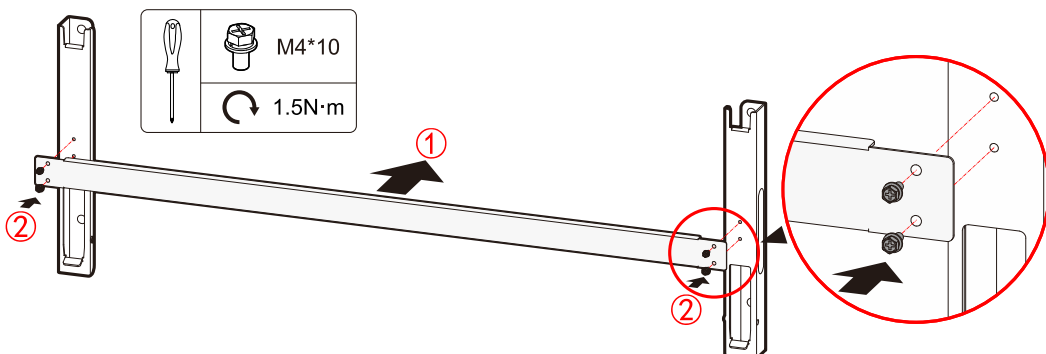

Figure3-11 Assemble installation holder
- Step 1 Use the equipped four M4\*10 combination bolts to fix the installation holder with the joint lever, as shown in Figure3-11.